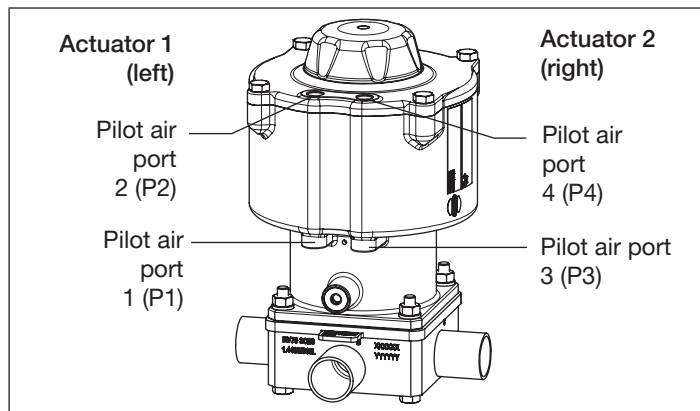

Fig. 19: Actuator assignment
1) Actuator assignment see “Fig. 19”.